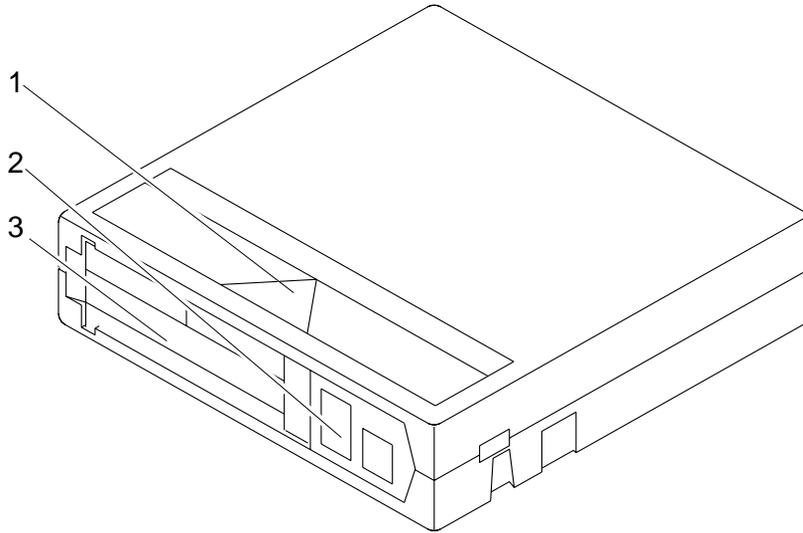

FIGURE 2-21 Correct Tape Cartridge Orientation
- **Place a tape cartridge in each fixed storage bin along the back wall of the library and on the inside of the left and right front doors. Be sure all cartridges are properly oriented (as shown in FIGURE 2-21) and seated in the bins.**